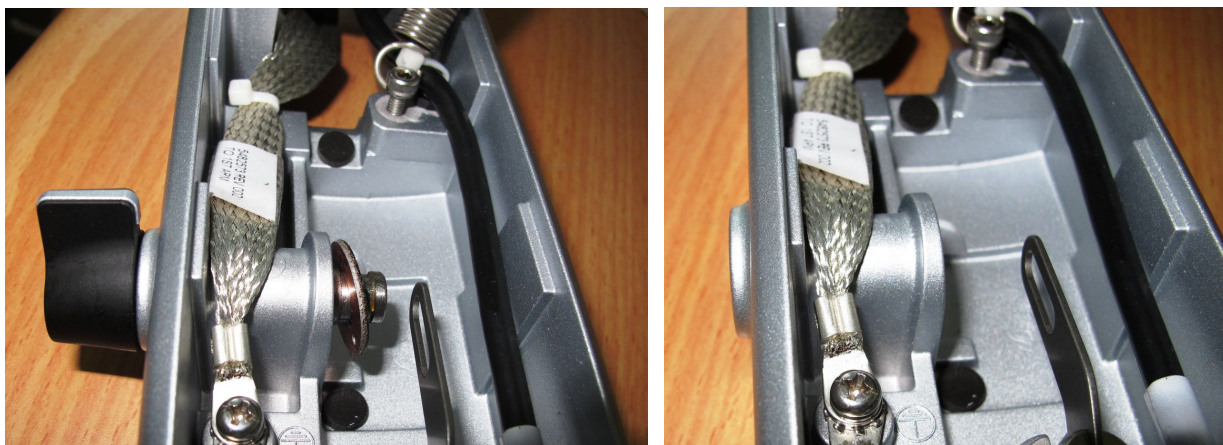

Figure 8-119 Removing the Locking Lever from the Locking Knob
- 6.) Carefully remove the locking lever from the locking knob and remove the washer - see Figure 8-119.